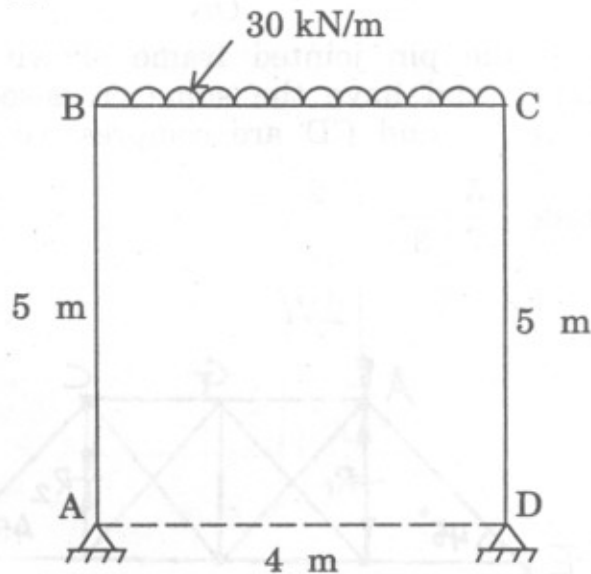

Fig. 9
- (B) A portal frame ABCD is hinged at its feet A and D with stiff joints at B and C. Calculate the horizontal thrust at the hinges, using the method of minimum-strain energy.  $EI = \text{constant}$ . Neglect the effect of shear and axial thrust in the columns. Refer Fig. 9. [8]